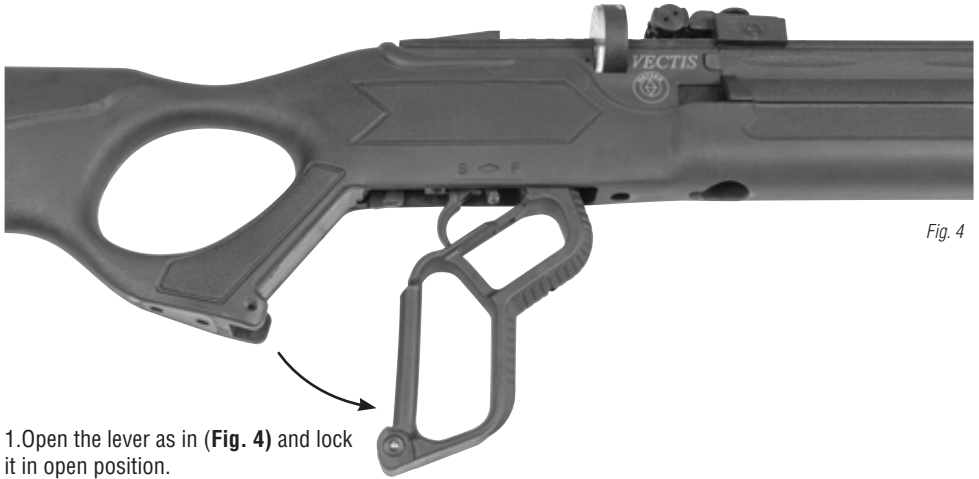

Fig. 4
1. Open the lever as in (Fig. 4) and lock it in open position.